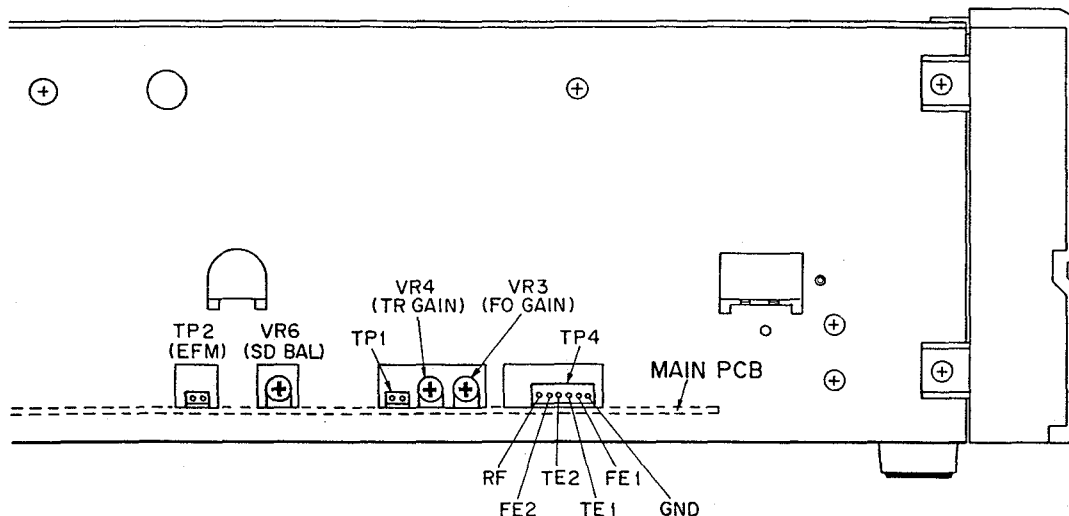

Fig. 4-8
* Adjustment Points: AUDIO PCB (Fig. 4-8)
* 調整箇所: AUDIO PCB (図4-8 参照)